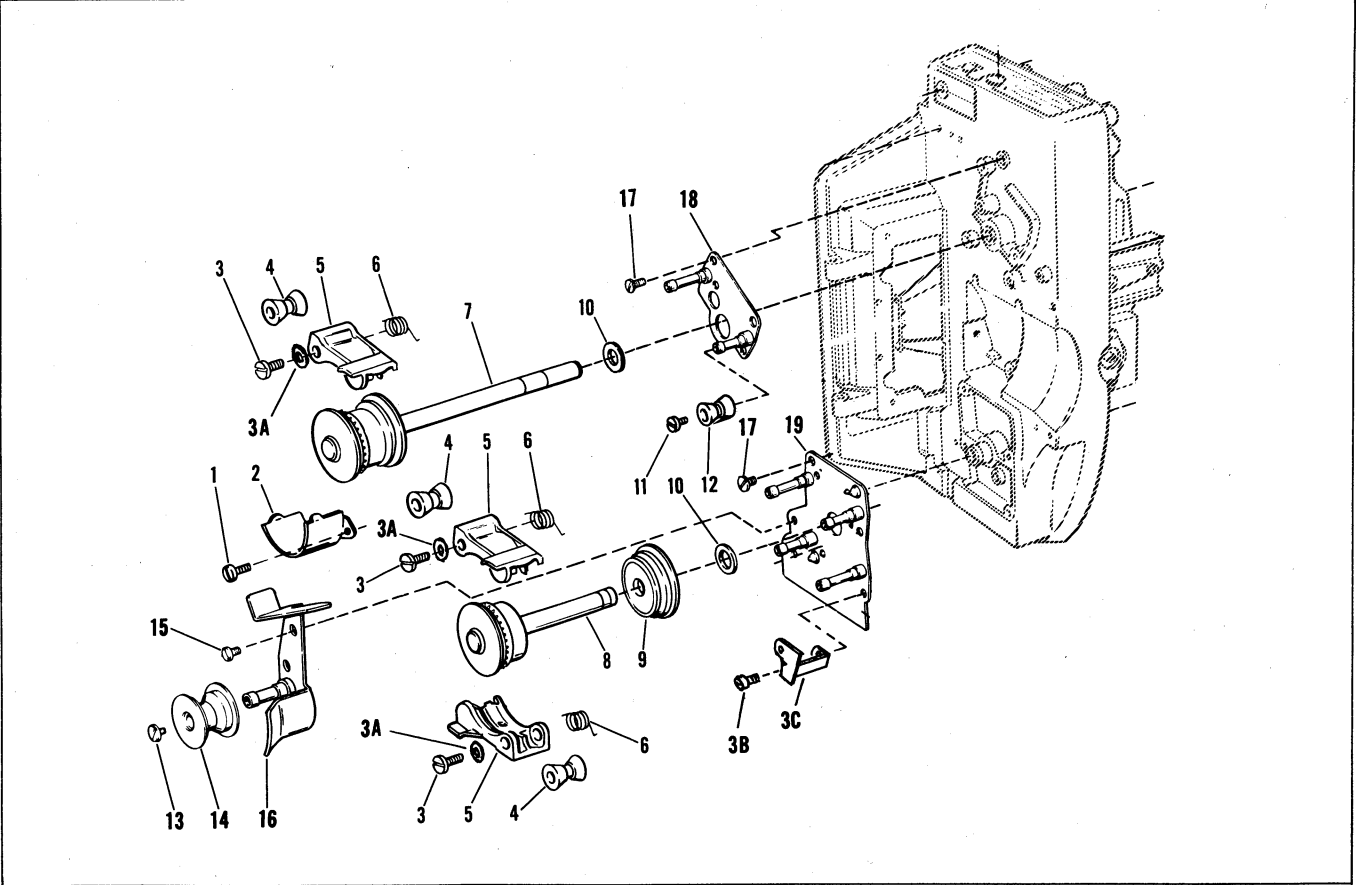
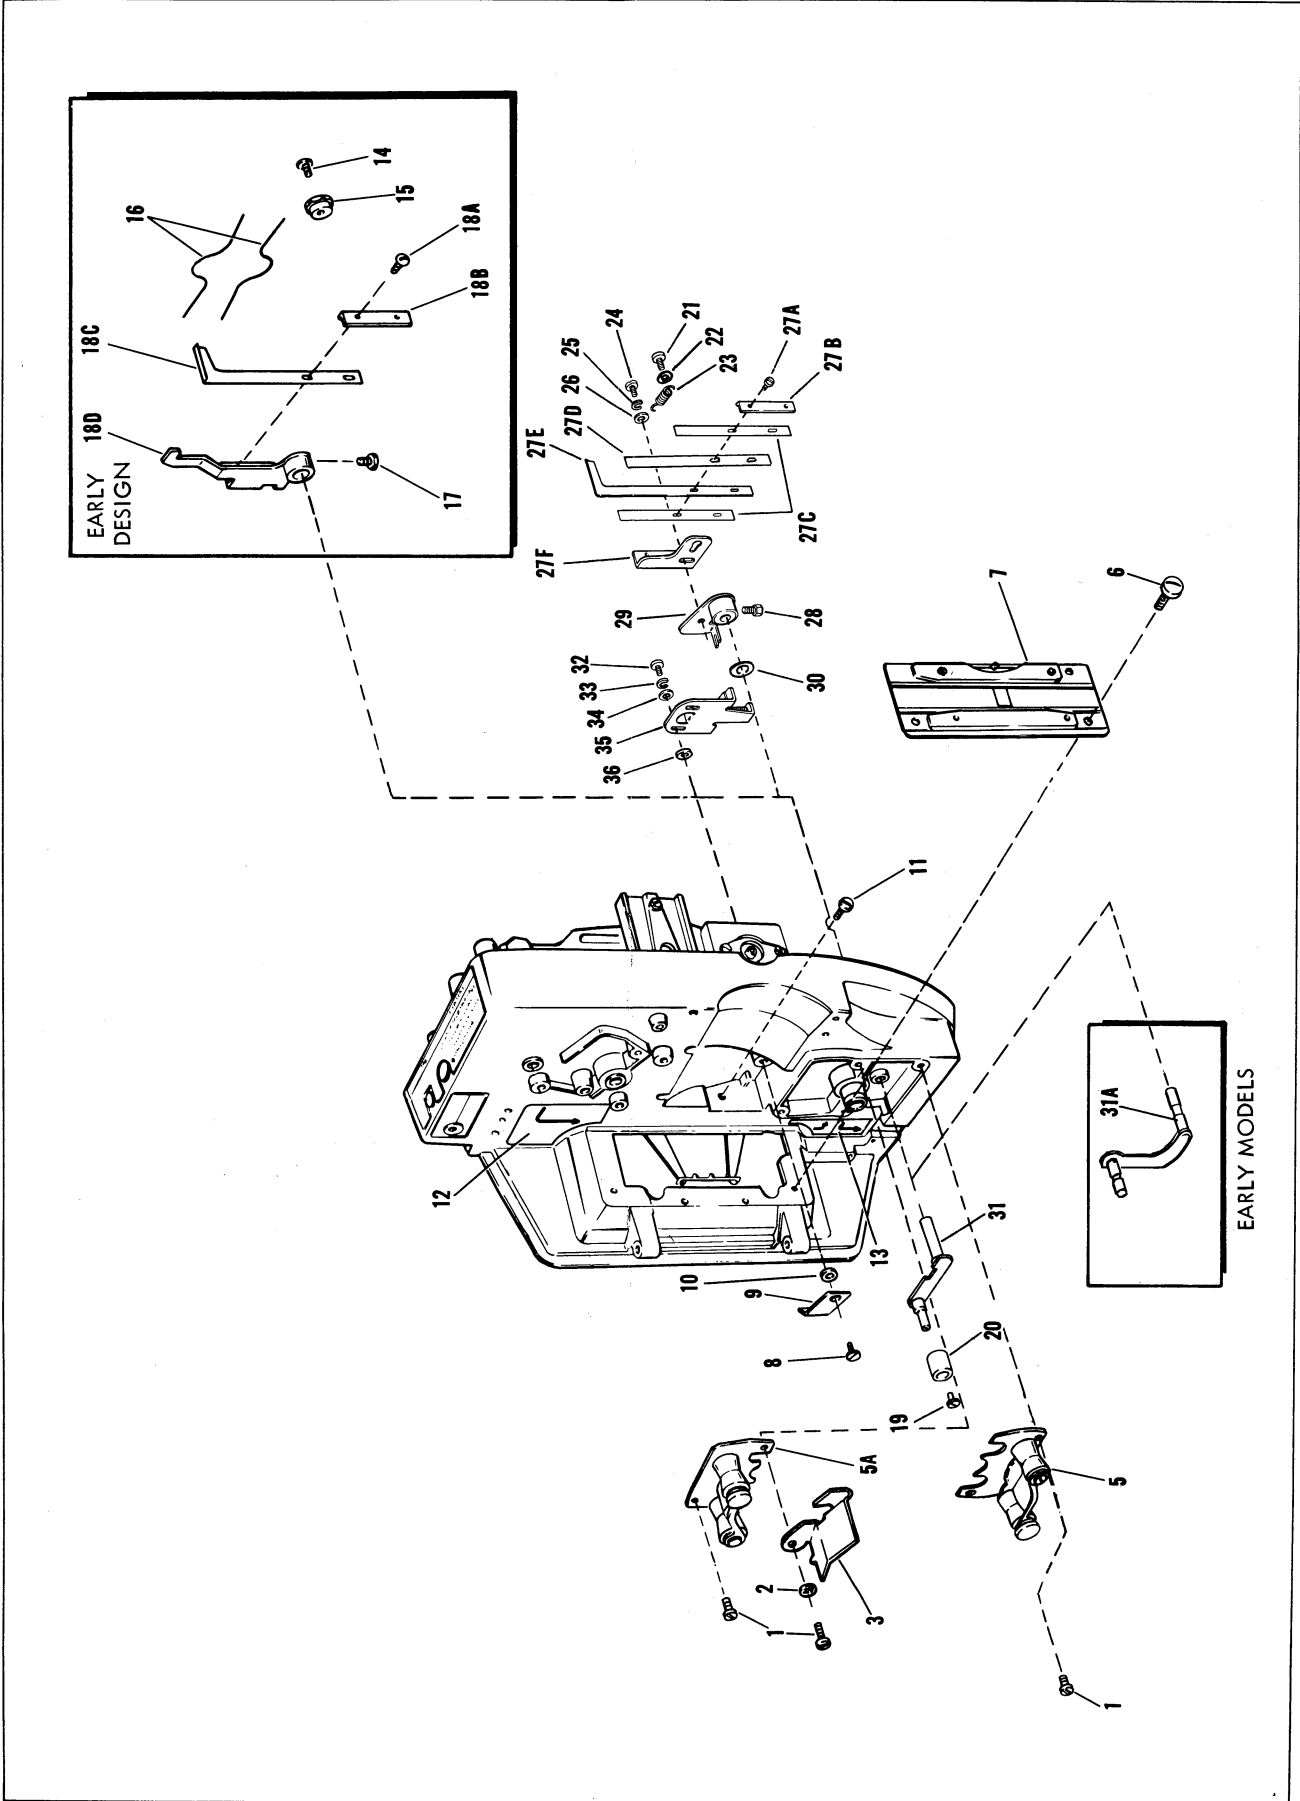

Figure 14A. Current (Molded) Sprocket Guards
Figure 15. Mechanism Assembly (Sheet 2)
- NOTE A: Early lens carrier assemblies #011199 and #011200 were used on projectors with metal sprocket guards. See Figure 14A for molded sprocket guards and associated parts. See Figure 15 for metal sprocket guards and associated parts.
- NOTE D: See Figure 14A for current (molded) sprocket guards and sprockets.
NOTE A: Sprocket guards (items 5 and 5A) shown in Figure 15 are early style metal guards.
See Figure 14A for current molded sprocket guards.